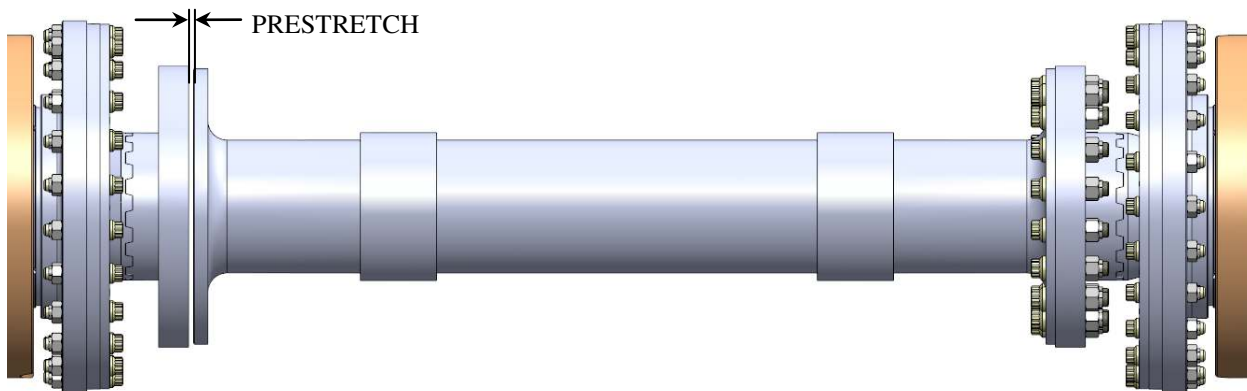

Figure 14 – Prestretch Gap Check at Final Bolted Joint
4.2.5 Measure the gap between the flange faces. This gap distance is the actual prestretch that the coupling will have when installed (see Figure 14). Verify the prestretch is as required.